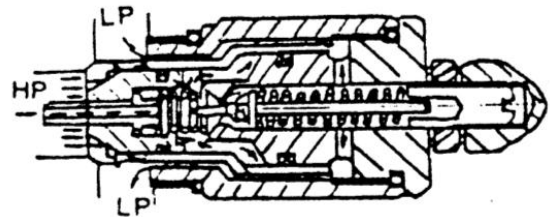

Fig.6.6
(2) When the oil pressure of the cylinder HP port is overrun the spring limit pressure, the precursor valve core E will be open, and the oil will inflood the hole via the valve core circumference, then reach the LP passage. (See Fig.6.6)